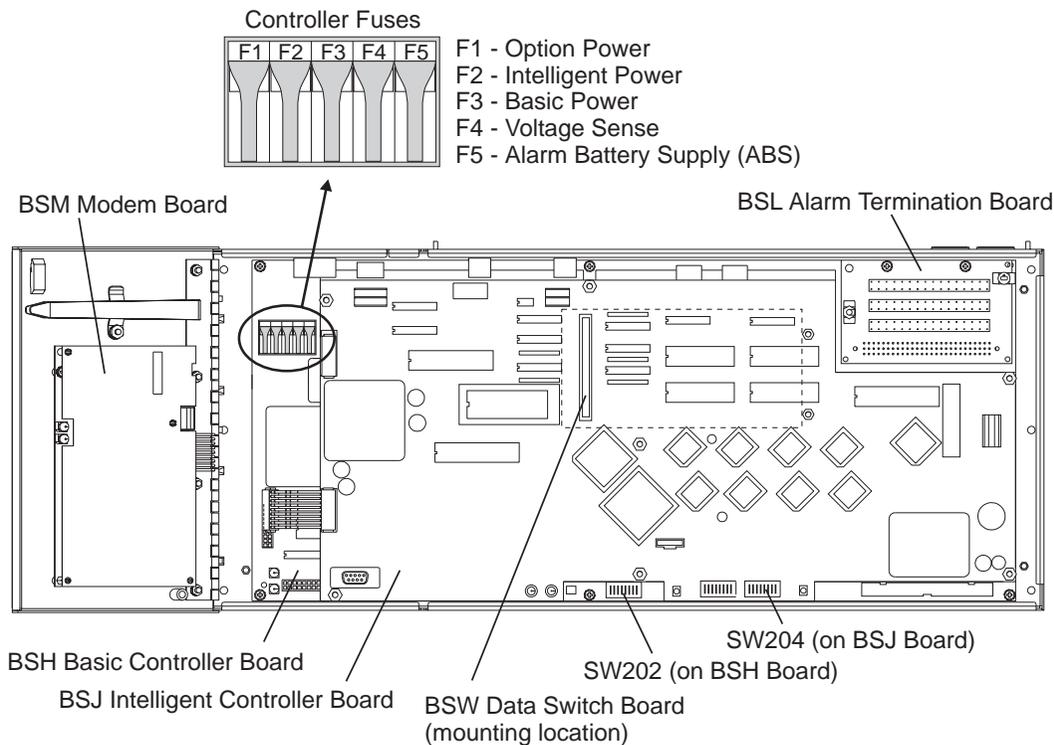

Figure 3-1: Galaxy Millennium Controller Switch Positions
Figure 3-1 shows the switch positions referred to in these procedures.
Refer to Figure 3-1 for the Millennium switch positions referred to in this test.
***Remote Alarm Test*** Using EasyView to perform the Alarm Test, hardware switches SW202-5 on the BSH board and SW204-2 on the BSJ board (Figure 3-1) must first be enabled, in addition to the software switches located at menu path.